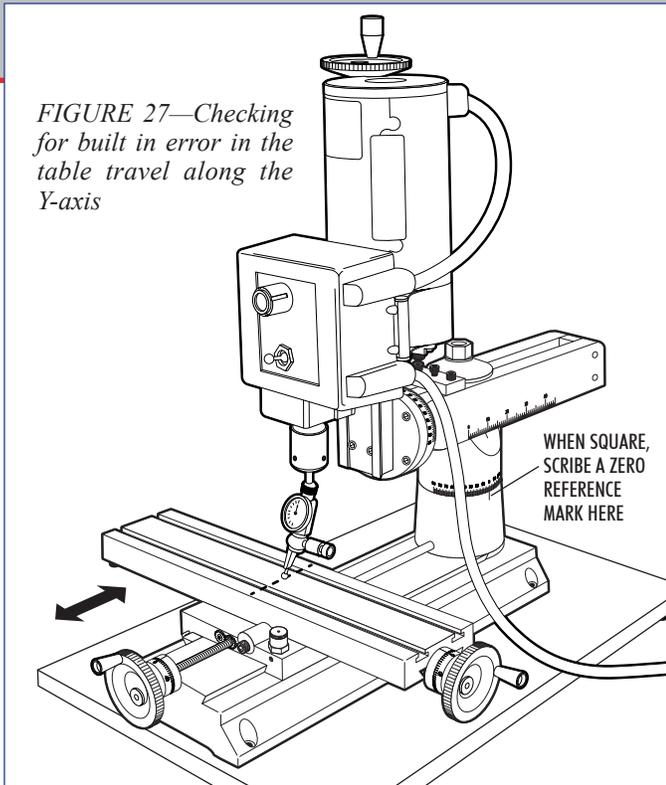

FIGURE 27—Checking for built in error in the table travel along the Y-axis
**All Sherline Mills**—(see Figure 27) To check the built-in error of the machine use a dial indicator mounted in the spindle. Move the table under spindle with the Y-axis handwheel and note the error. This error will usually be around .001" to .002" (.05 mm) in 3" (76 mm). (Remember, the components are not precision ground, they are precision milled.) When squaring the head later on this error should be accounted for. Remember you are squaring the head and spindle to the base of the machine where the saddle travels, not the surface of